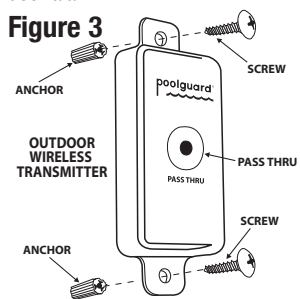

Figure 3
3. INSTALLING OUTDOOR WIRELESS TRANSMITTER (FIG. 3)